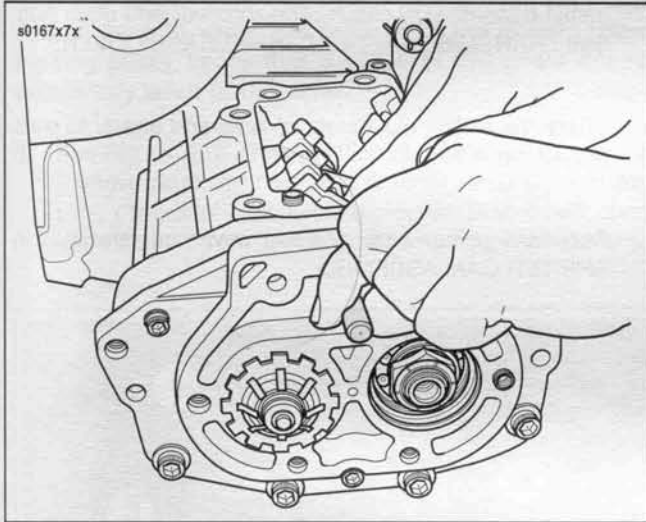

Figure 7-8. Fork & Fork Shaft Removal
3. See Figure 7-8. Slide fork shaft out through the hole and remove the shifter forks.